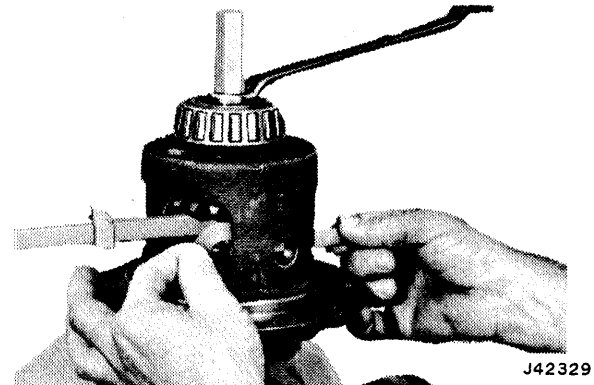
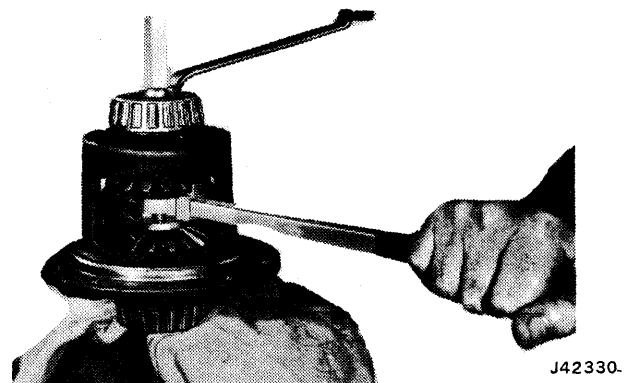

Fig. 10-64 Removing Pinion Thrust Washer
Fig. 10-65 Removing Pinion Gears
(15) Remove differential pinion gear thrust washers using feeler gauge or shim stock of 0.030-inch thickness. Insert shim stock or gauge between washer and case and withdraw shim stock and thrust washer (fig. 10-64).
(16) Tighten forcing screw until a slight movement of differential pinion gears is observed.
(17) Insert pawl end of gear rotating tool between teeth of one differential side gear. Pull handle of tool to rotate side gears and pinion gears. Remove pinion gears as they appear in case opening (fig. 10-65).